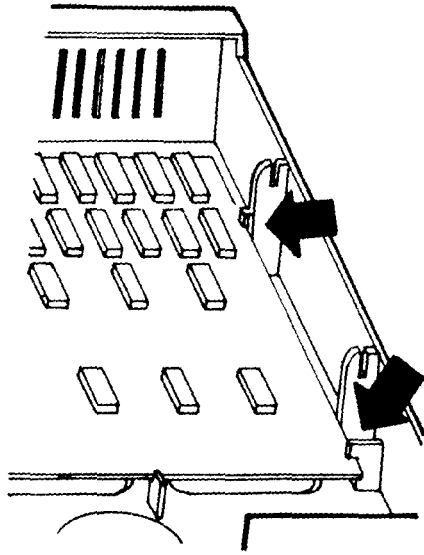

fig. 2
- 4 The **Racore** Memory Board should be held in place at its outer edge via two plastic flanges. (fig. 2)